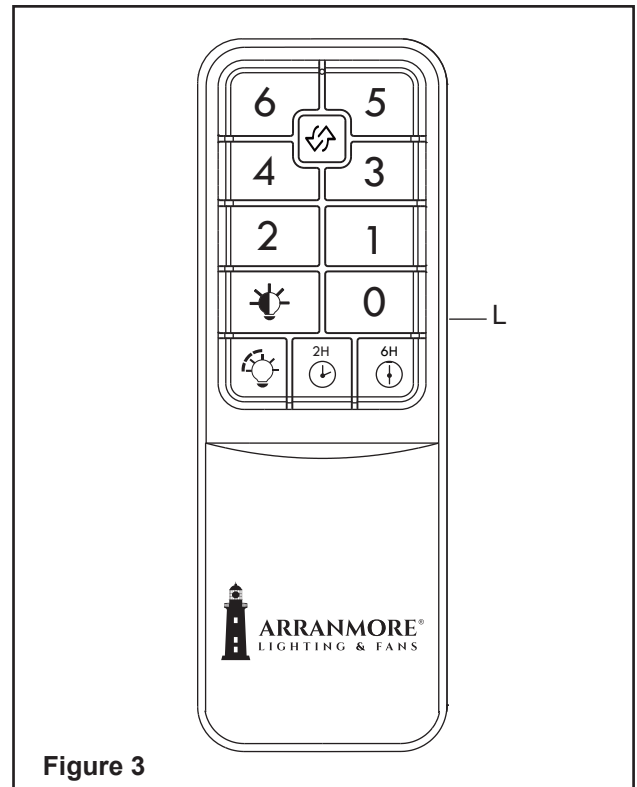

Figure 3
3. 0 Power OFF: Press and release the power button to turn the fan off. (Figure 3)